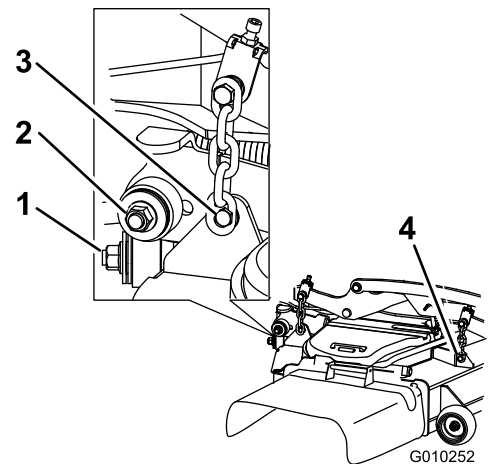

Figure 104
7. Remove and retain the hardware on both sides of the deck (Figure 104).